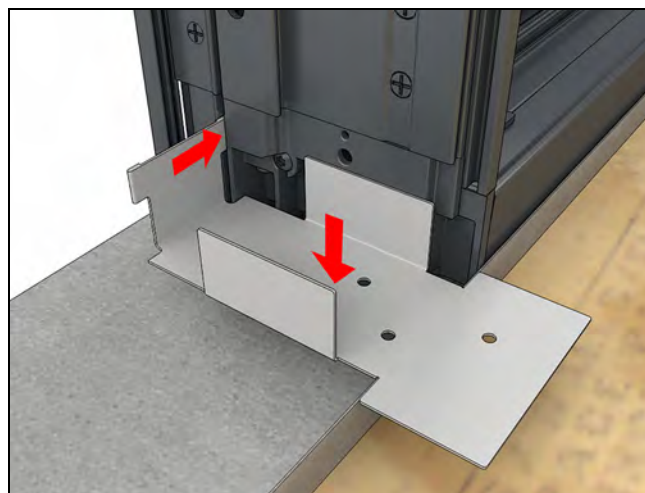

Figure 215
4. After the first frame (starting left to right as seen from the exterior) is secured in the opening, place the tube steel fixture on the sill, oriented so the turned up hemmed leg on the fixture fits into the frame kerf. Make sure the fixture fits flush against the sill corner key as shown. Mark the position of the sill bracket holes as shown in Figure 215.